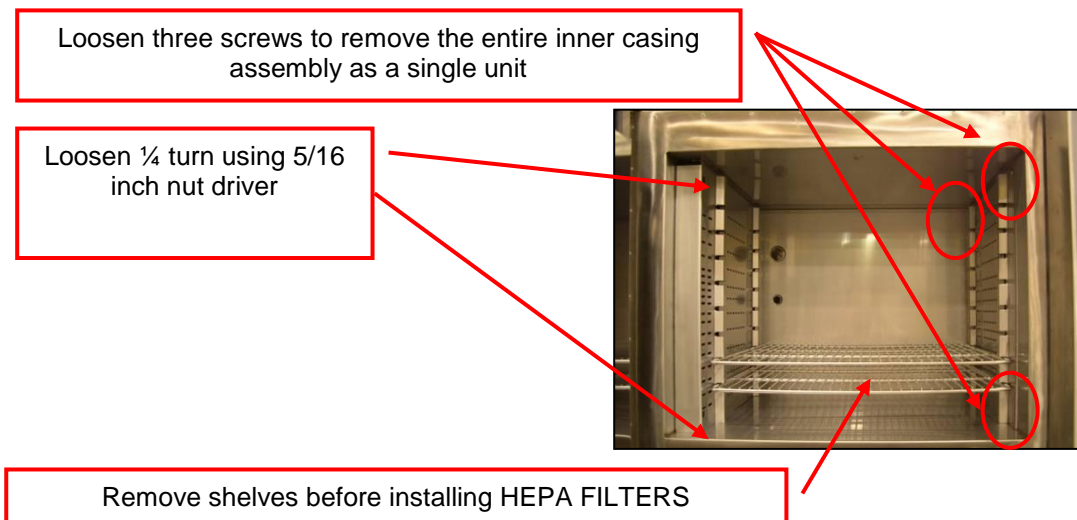

Figure 11. Remove inner casing to install HEPA filter.
3. Pull shelves from the oven and set aside (Figure 11).
4. Loosen the three screws at the upper and lower corners of the right rear of the chamber (Figure 11).